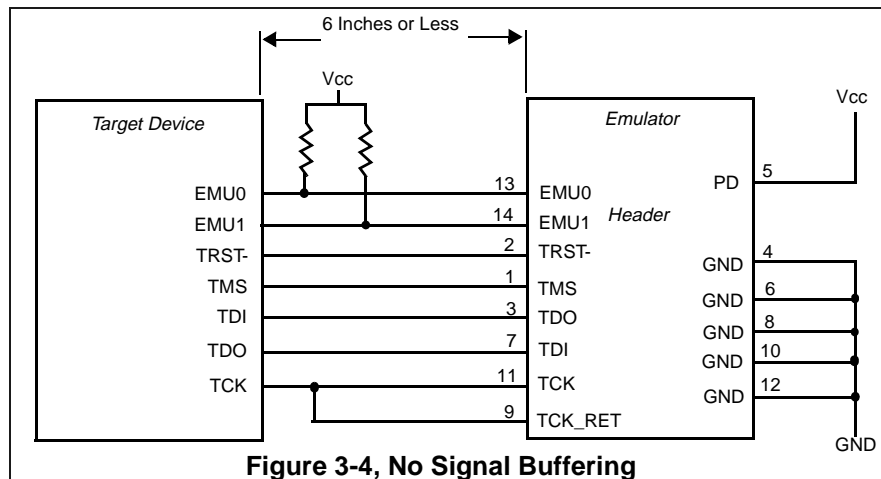

Figure 3-4, No Signal Buffering
- **No signal buffering.** As shown in figure 3-4, the distance between the header and the target device should be no more than 6 inches.